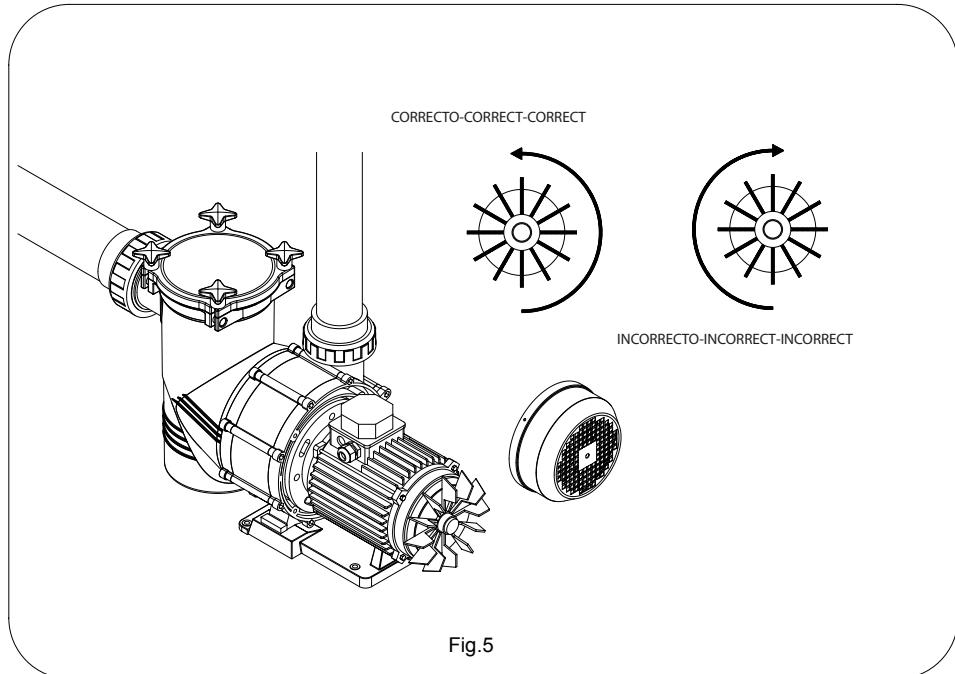

Fig.5
- In three-phase motors check that the motor rotation direction is correct, by means of the fan located in the rear part of the motor, seen through the peephole in the fan cover (Fig.5).